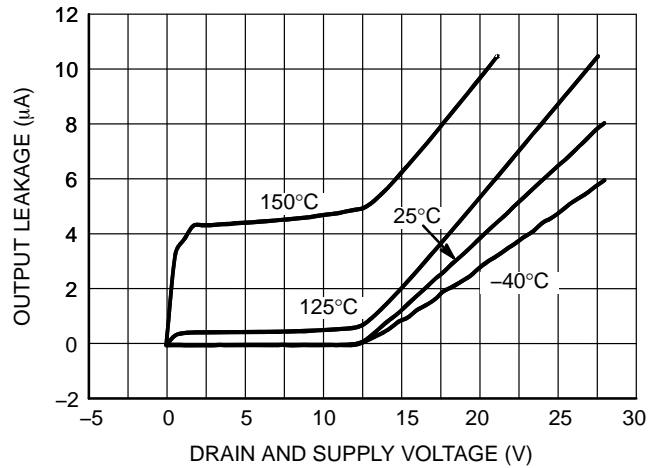

Figure 16. Standby Output Leakage vs. VS
9. Refer to Figure 16 for output leakage current behavior.